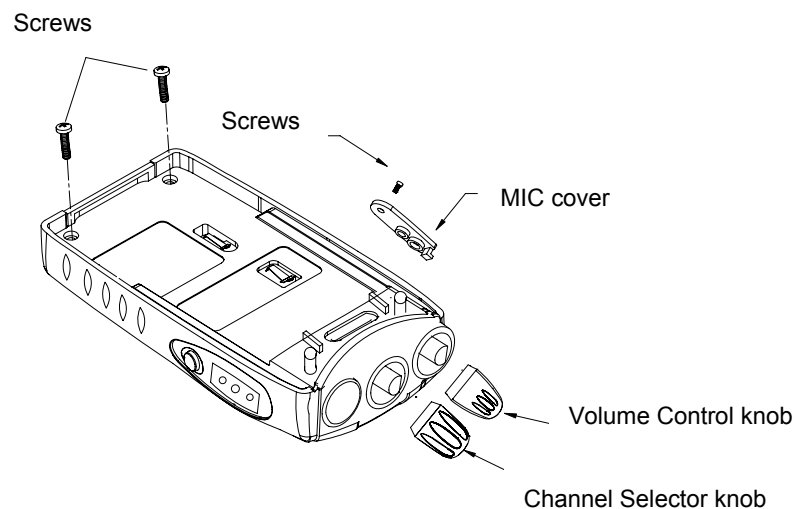

Figure 2
Step 4 Unfasten the screws for fastening MIC cover and remove the cover. See Figure 2.